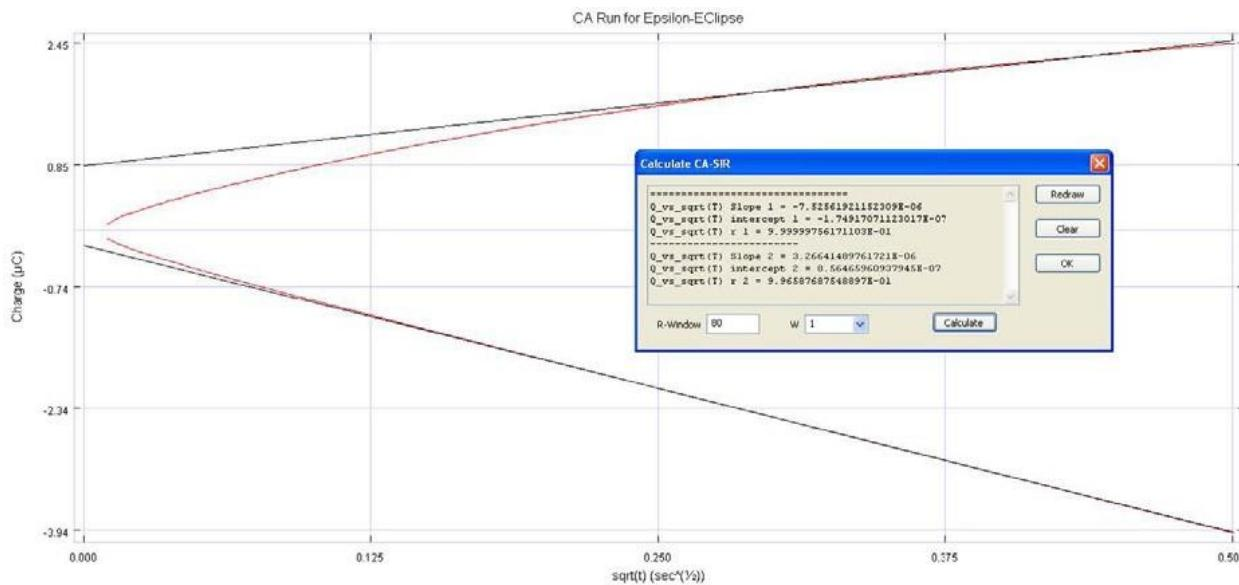

Figure 12 - Calculation of slope and intercept of linear plot
13. The Epsilon EClipse™ software can calculate the slope and intercept of the linear **Q vs sqrt(T)** plot when it is displayed. Selecting **Calculate CA-SIR** from the Analysis menu generates the information box shown in **Figure 12**. The lines used for the linear fitting are the dashed blue lines in **Figure 12** (note that the first 20% of the data points are not used in the calculation, due to interference from the charging current and other experimental artifacts).